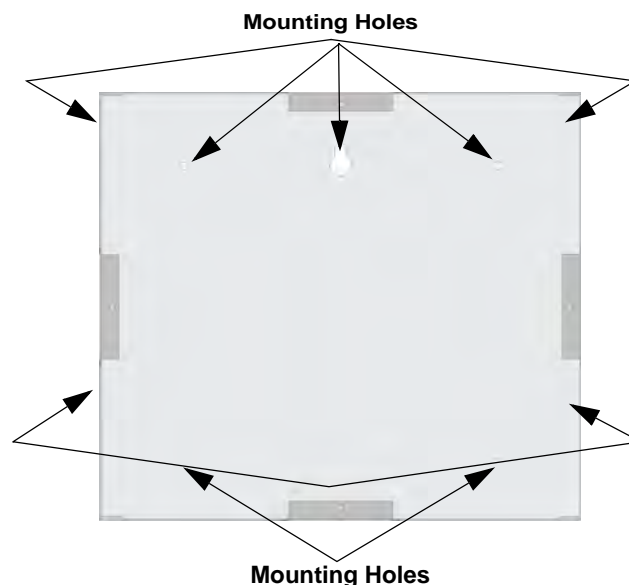

Figure 4.13 Back Box Mounting Holes
1. The back box dimensions are 9-9/32" w x 8-3/8" h. The minimum depth 2". The back box can be mounted prior to the complete installation of the RA-100 using any of the mounting holes shown in Figure 4.13.